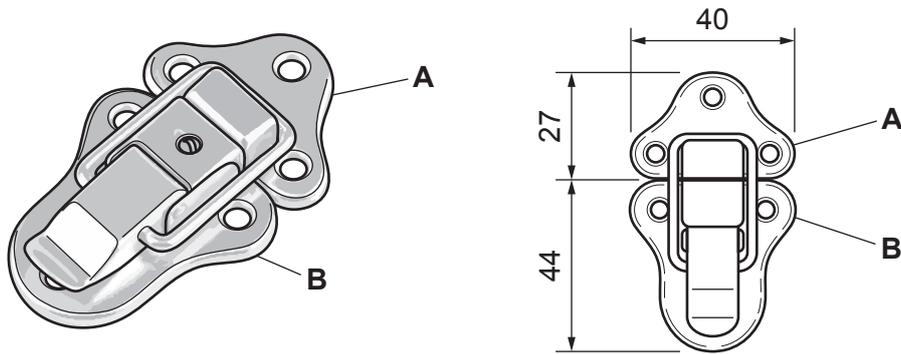

Fig. 13.5
- (f) Fig. 13.5 shows details of one of two toggle catches that will be used to secure the lid to the base of the case. The toggle catch is shown in a closed position.